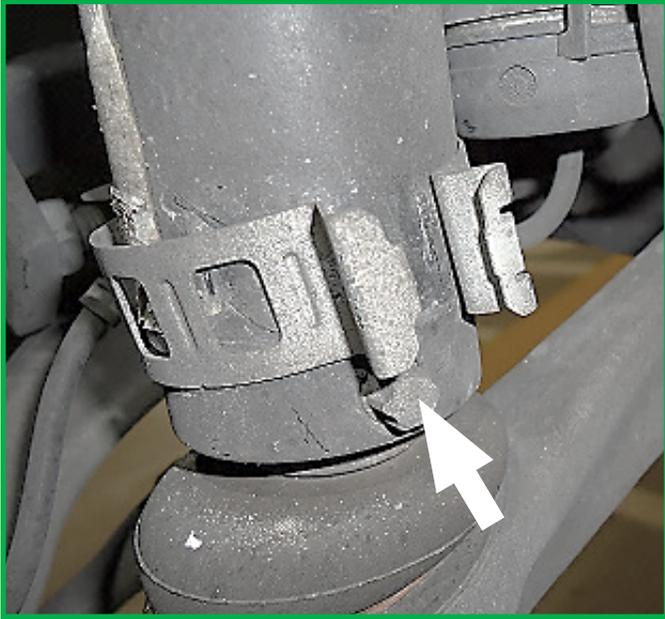

FIGURE 8
6. Cut cable ties and remove brake line bracket and bottom clip. (Figures 8, 9, 10, 11)